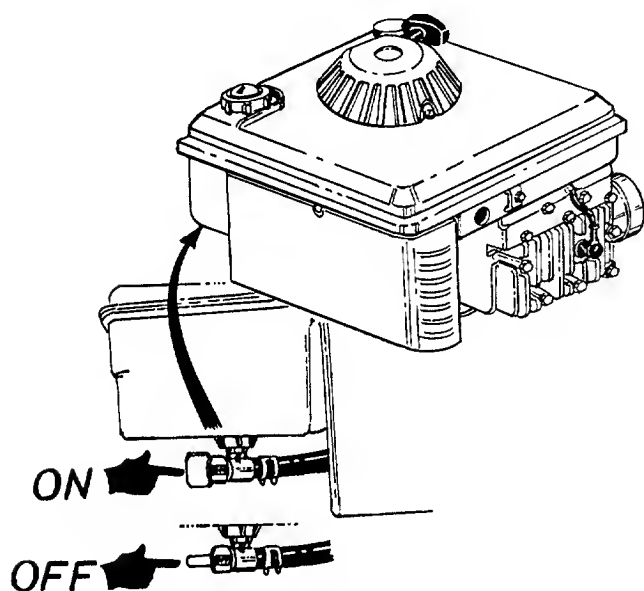

FIGURE 14.
5. Open fuel shut-off valve, located beneath the fuel tank. See figure 14.